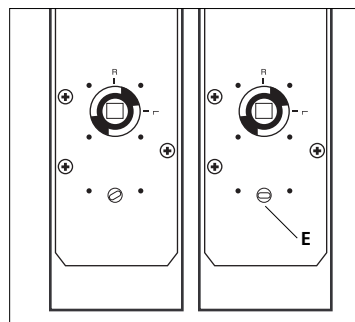

Figure 18
- 1) Remove the access plate (A). The screw is located underneath the warning sticker.
- 3) Remove the silver colored spacer (B).
- 5) Reposition the coil spring (C) (**the tip of the coil spring must be down**) and the hand siding pin (D) for the new handing of the lock, as shown. Before changing the hand siding pin make sure that the override cam (E) (see Figure 24) is turned completely clockwise, and that the spindle is straight. After changing the pin turn the override cam counter clockwise (see Figure 18 back to its original position).